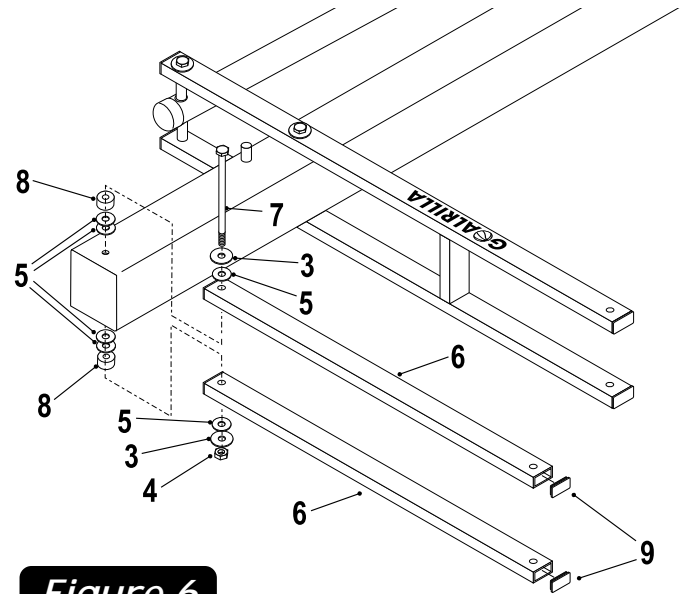

Figure 6
7. Attach Upper Arms (#6) to Pole (#2), as shown in Figure 6, using a bolt (#7), two flatwashers (#3), six plastic washers (#5), two spacers (#8) and one hex nut (#4). Tighten bolts snug but, do not over tighten. Board Arms must pivot freely.